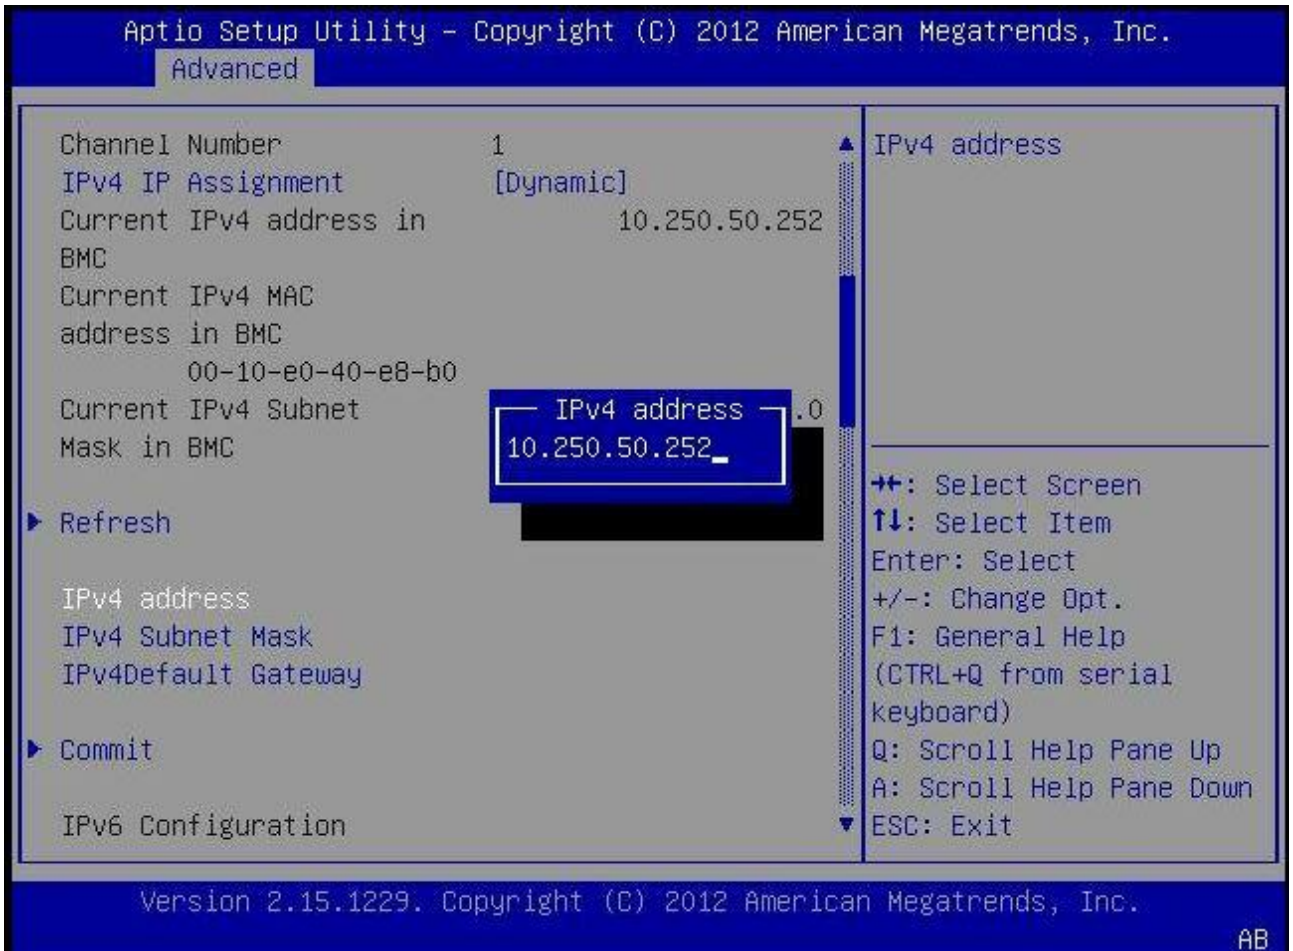

Figure 40 - Enter IPv4 Address
11. Use the arrow keys to navigate down to highlight the “Commit” BELOW the IPv4 fields you just configured as shown at the bottom of Figure 40. If you select a different “Commit” the information you just entered will not be saved. Once you hit enter to Commit, wait a brief moment for the information you entered to be saved. There will not be any visual feedback that Commit was done.